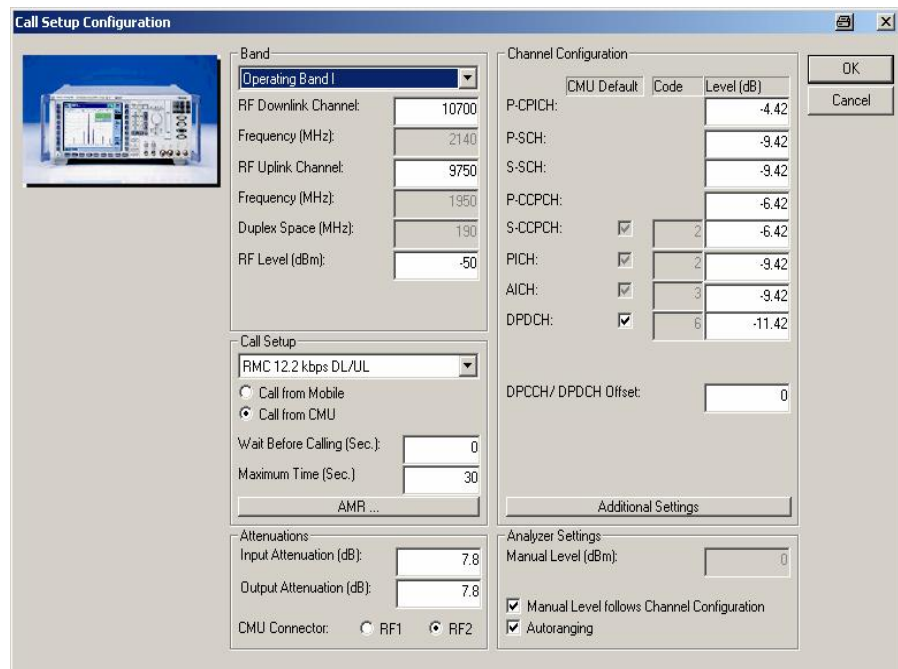

Fig. 6.4\_3: Call Setup configuration
- 5) Enter the path loss you measured between UE and CMU200 as *Input Attenuation* and *Output Attenuation* (lower left in Fig. 6.4\_3))